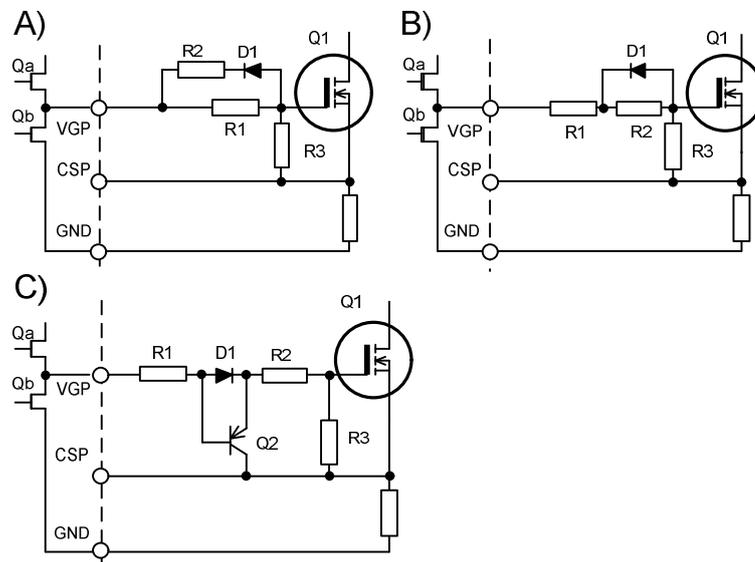

Fig.11. PFC gate drive connection
General gate drive connection is shown in Fig.11.
Snappy (hard recovery) diode is not recommended for gate sinking use as shown in Fig.11 A), B).
PNP BJT sinking is effective when using large Q_g MOSFET as shown in Fig. 11 (C).